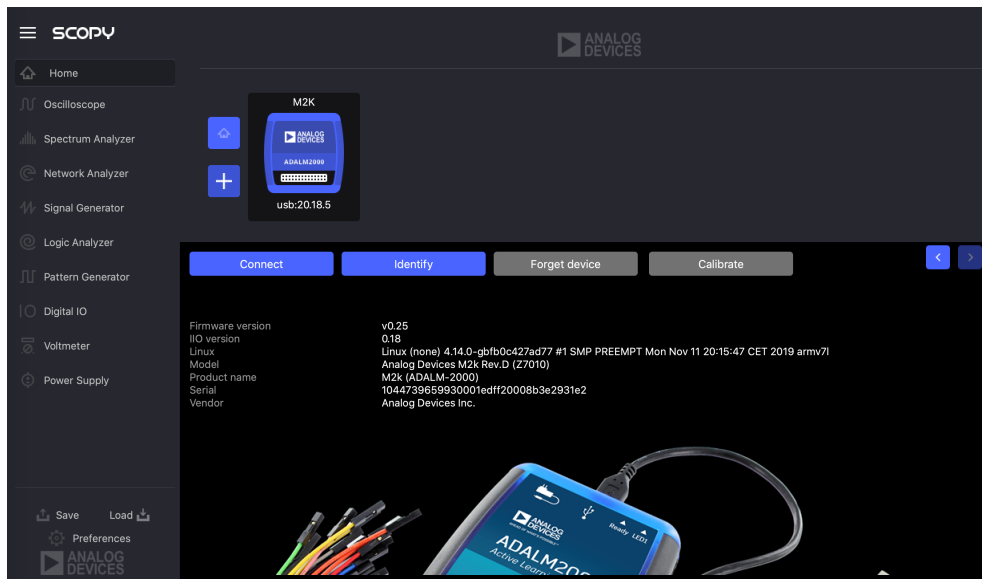

Figure 1: Scopy interface
- Once the installation is complete, double click the Scopy app icon to see whether the M2K unit connected to a USB port of your computer is detected by Scopy. If everything works well you should see Figure 1 on your computer screen: